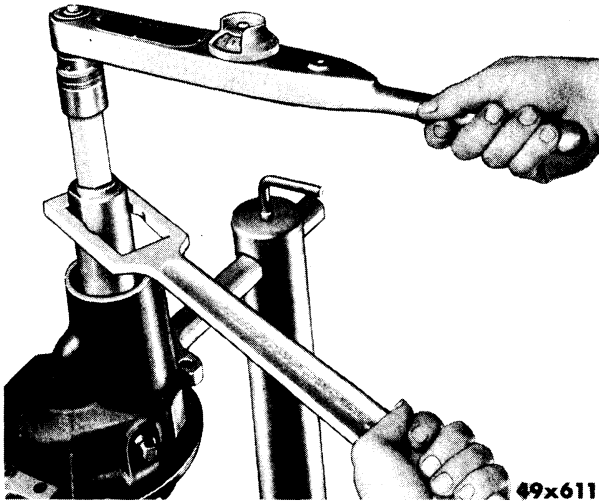
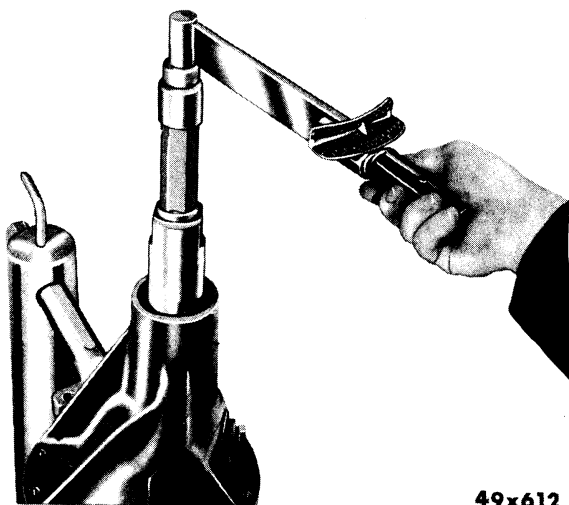

Fig. 34—Tightening Compression Nut with Foot-Pound Torque Wrench
Fig. 35—Checking Torque Required to Turn Main Body
- (3) Place **compression sleeve**, **centralizing washer** and **compression nut** over **main body**, and tighten to 240 minimum foot-pounds torque, as shown in Figure 34.
- (4) Remove torque wrench and, with a speed wrench, rotate **main body** of tool to seat bearings properly.
- (5) Use an inch-pound wrench to read the torque required to turn **main body**, as shown in Figure 35. Desired torque should be from 20 to 30 inch-pounds. It may be necessary to add or remove shims to obtain desired torque. In this case, loosen up the assembly and add or remove shims as required.
- (7) Add the washer selected to the tool, between the spacer SP-1371 and the pinion rear bearing. Add the spacer SP-1370 and the **pinion bearing adjusting spacer** (that was removed from the axle at disassembly). Insert the tool assembly in the carrier housing.
- (8) Slide the front bearing on the shaft and into position in its cup. Install the tool spacer, nut and washer.
- (9) Tighten tool to 250 minimum foot-pounds torque as shown in Figure 34.
been seated, check the bearing pre-load by revolving the tool, using an inch-pound torque wrench, as shown in Figure 35.